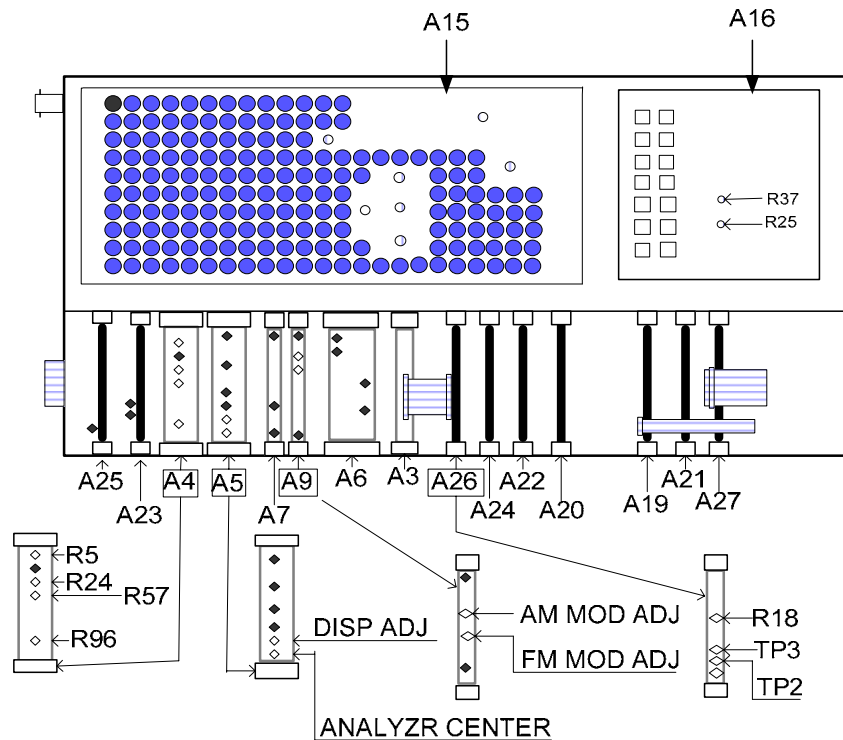

Figure 1. Top view.
(1) Disconnect equipment from TI, press **TI POWER** key off, and remove function generator assembly A24 (fig. 1). Install function generator assembly using extender board (7010-7839-900). Press **TI POWER** key **ON**.